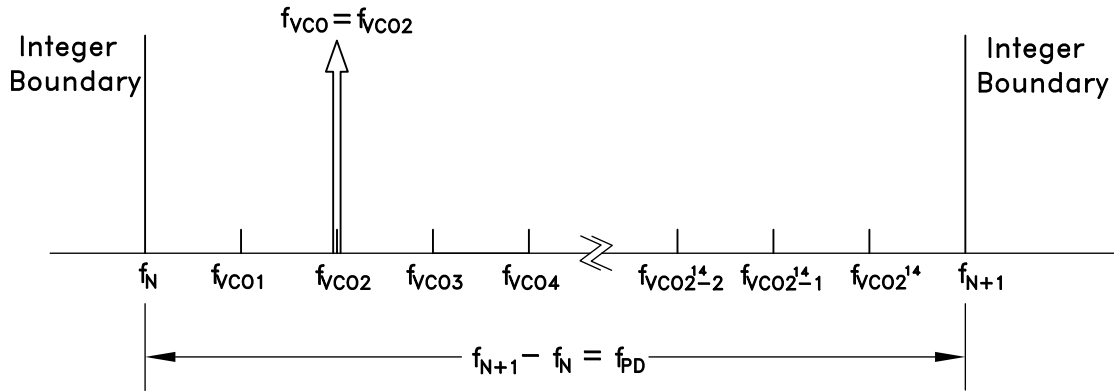

Figure 23. Exact Frequency Tuning
and f_{VCOk} are the channel step frequencies where $0 < k < 2^{24}-1$, As shown in Figure 23.
Some fractional PLLs are able to achieve this by adjusting (shortening) the length of the Phase Accumulator (the denominator or the modulus of the Delta-Sigma modulator) so that the Delta-Sigma modulator phase accumulator repeats at an exact period related to the interval frequency ($f_{VCOk} - f_{VCO(k-1)}$) in Figure 23. Consequently the shortened accumulator results in more frequent repeating patterns and as a result often leads to spurious emissions at multiples of the repeating pattern period, or at harmonic frequencies of $f_{VCOk} - f_{VCO(k-1)}$. For example, in some applications, these intervals might represent the spacing between radio channels, and the spurious would occur at multiples of the channel spacing.
If it is desirable to have multiple, equally spaced, exact frequency channels that fall within the same interval (ie. $f_N \leq f_{VCOk} < f_{N+1}$) where f_{VCOk} is shown in Figure 23 and $1 \leq k \leq 2^{14}$, it is possible to maintain the same integer-N (Reg 03h) and exact frequency register (Reg 0Ch) settings and only update the fractional register (Reg 04h) setting. The Exact Frequency Channel Mode is possible if (EQ 17) is satisfied for at least two equally spaced adjacent frequency channels, i.e. the channel step size.
To configure Hittite PLL for Exact Frequency Channel Mode, initially and only at the beginning, integer (Reg 03h) and exact frequency (Reg 0Ch) registers need to be programmed for the smallest f_{VCO} frequency (f_{VCO1} in Figure 23), as follows:
1. Calculate and program the integer register setting $\text{Reg 03h} = N_{INT} = \text{floor}(f_{VCO1}/f_{PD})$, where f_{VCO1} is shown in Figure 23 and corresponds to minimum channel VCO frequency. Then the lower integer boundary frequency is given by $f_N = N_{INT} \cdot f_{PD}$.
$\text{Reg 04h} = N_{FRAC} = \text{ceil} \left(\frac{2^{24} (f_{VCOk} - f_N)}{f_{PD}} \right)$ where $f_N = \text{floor}(f_{VCO1}/f_{PD})$, and f_{VCO1} , as shown in Figure 23, represents the smallest channel VCO frequency that is greater than f_N .
4. To change from channel 1 ($f_{VCO1} = 2000.2$ MHz) to channel 2 ($f_{VCO2} = 2000.3$ MHz), only **Reg 04h** needs to be programmed, as long as all of the desired exact frequencies f_{VCOk} (Figure 23) fall between the same integer-N boundaries ($f_N < f_{VCOk} < f_{N+1}$). In that case